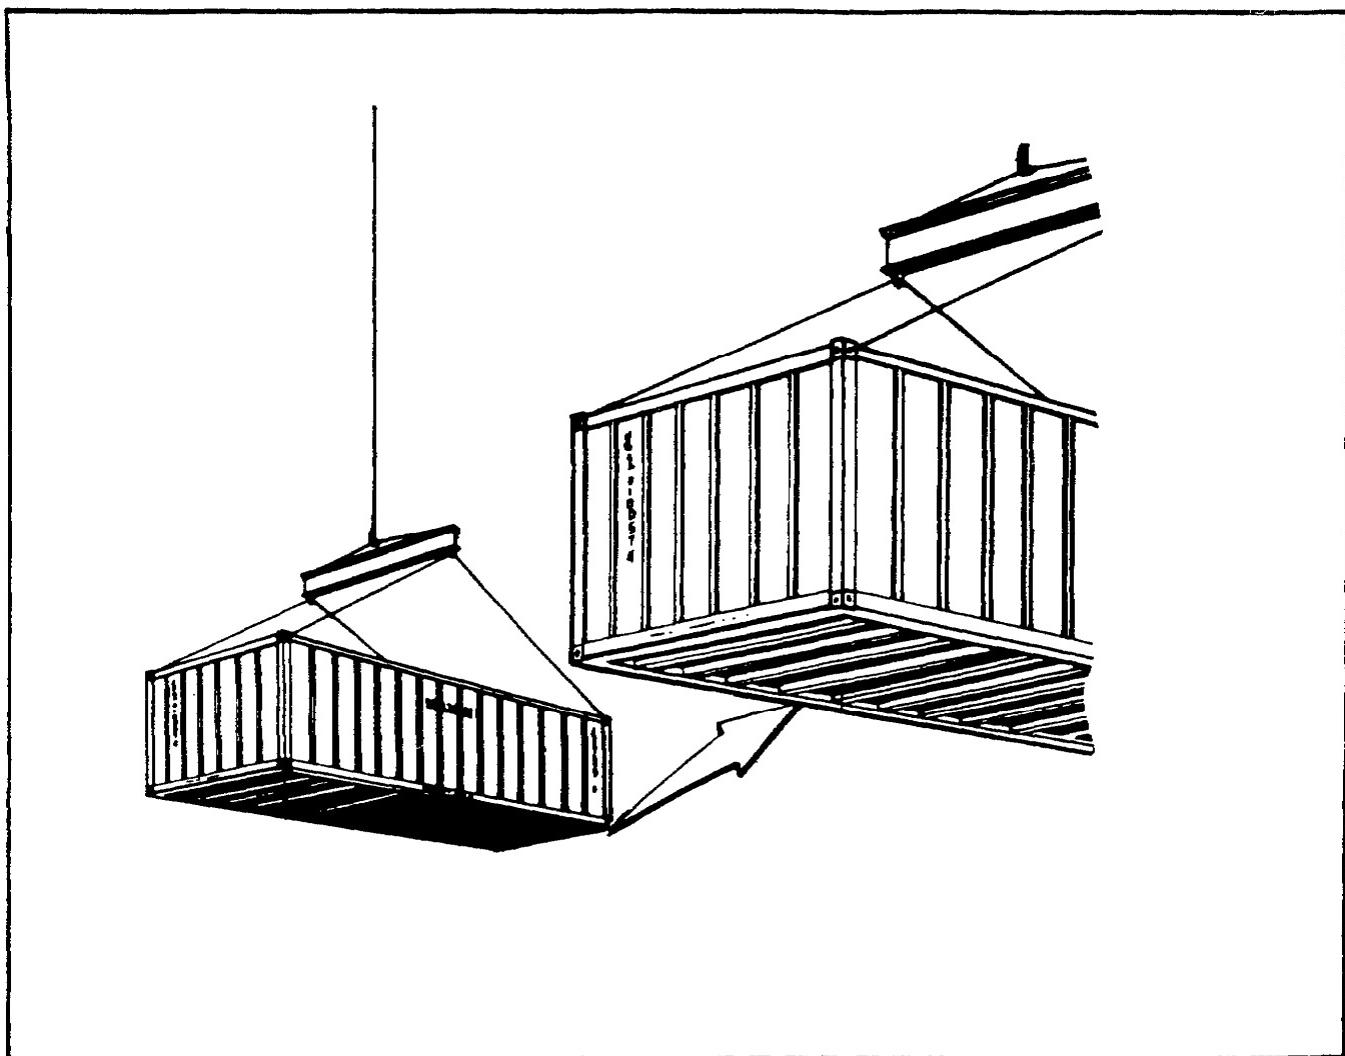

Figure 2-20. MILVAN Suspended Making Inspection of Its Underside Possible.
*Item 7-Understructure (Exterior).* Have the MILVAN raised and safely supported so you can inspect the bottom of the container (figure 2-20). Carefully check for any cracked or broken weld, or any weld that has been improperly made. Examine each frame member on the underside of the MILVAN for fractures, cracks, kinks, distortions, and separations. Remember, throughout the inspection, check for bad welds, and for broken, damaged, or improperly used bolts, rivets, and fasteners. Check the openings in the four bottom corner fittings for obstruction and damage.